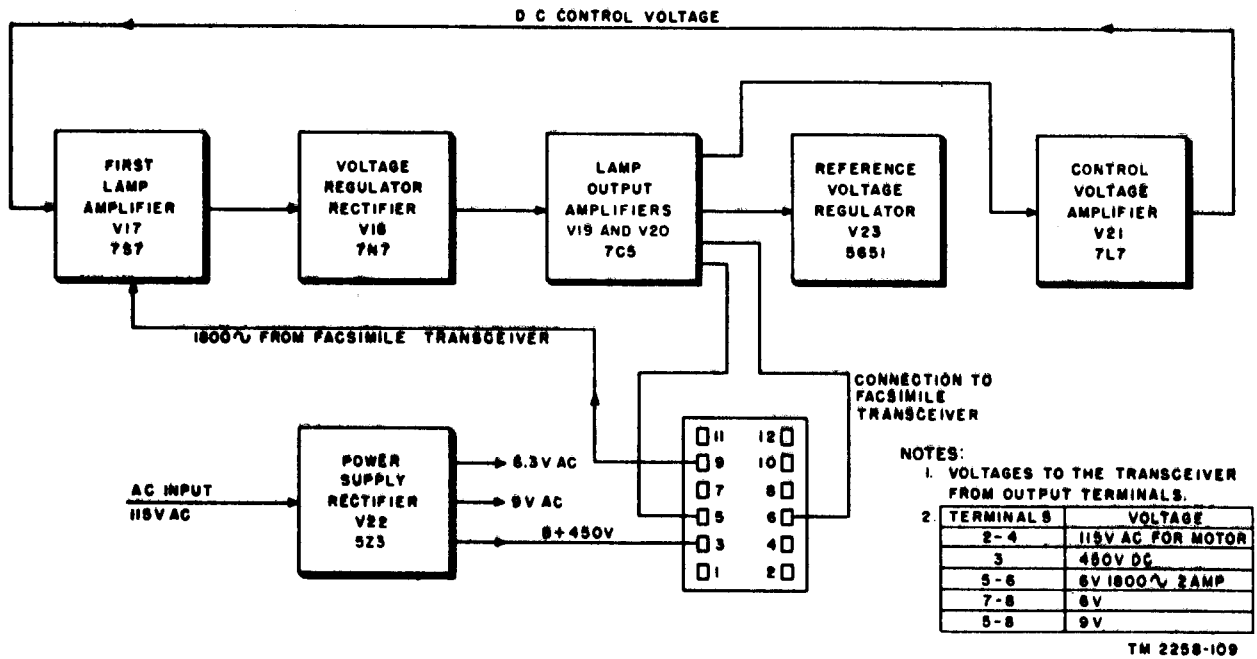

Figure 66. Rectifier power unit PP-86(*)/TxC-1, block diagram.
80. Block Diagram (fig. 66)
supply, and 6.5 volts for the transceiver filaments. The primary of T11 is fused by F2, and the circuit is completed through ON-OFF switch S2 on the transceiver operating panel. In Rectifier Power Unit PP-86(*)/TXC-1, the starting voltage for the transceiver motor is supplied from the line through terminals 2 and 4 of the Jones plug when the START switch is operated. Two capacitors, C10 and C11, form a high-frequency suppressor at the transformer input. The rectified ac delivered by V22 is filtered by swinging input choke T12, choke T13, and filter capacitors C12, C13, and C14. In Rectifier Power Unit PP-86/TXC-1, filter capacitor C13 is in parallel with output filter capacitor C14 (fig. 66). In Rectifier Power Units PP-86A/TXC-1, PP-86B/TXC-1, and PP-86E/TXC-1, C13 is in parallel with first filter capacitor C12.